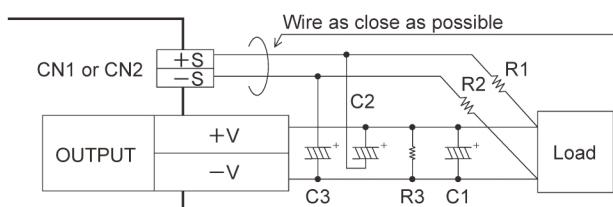

Fig. 1.4 When using remote sensing function
■ Please see Fig. 1.4 if you use the remote sensing function.